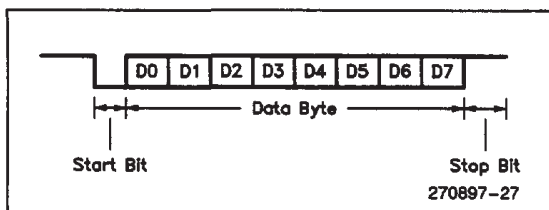

Figure 25. Mode 1 Data Frame
Mode 1: 10 bits are transmitted (through TXD) or received (through RXD): a start bit (0), 8 data bits (LSB first), and a stop bit (1). On receive, the stop bit goes into RB8 in SCON. The baud rate in Mode 1 is variable: you can use either Timer 1 to generate baud rates and/or Timer 2 to generate baud rates. Figure 25 shows the mode 1 Data Frame.